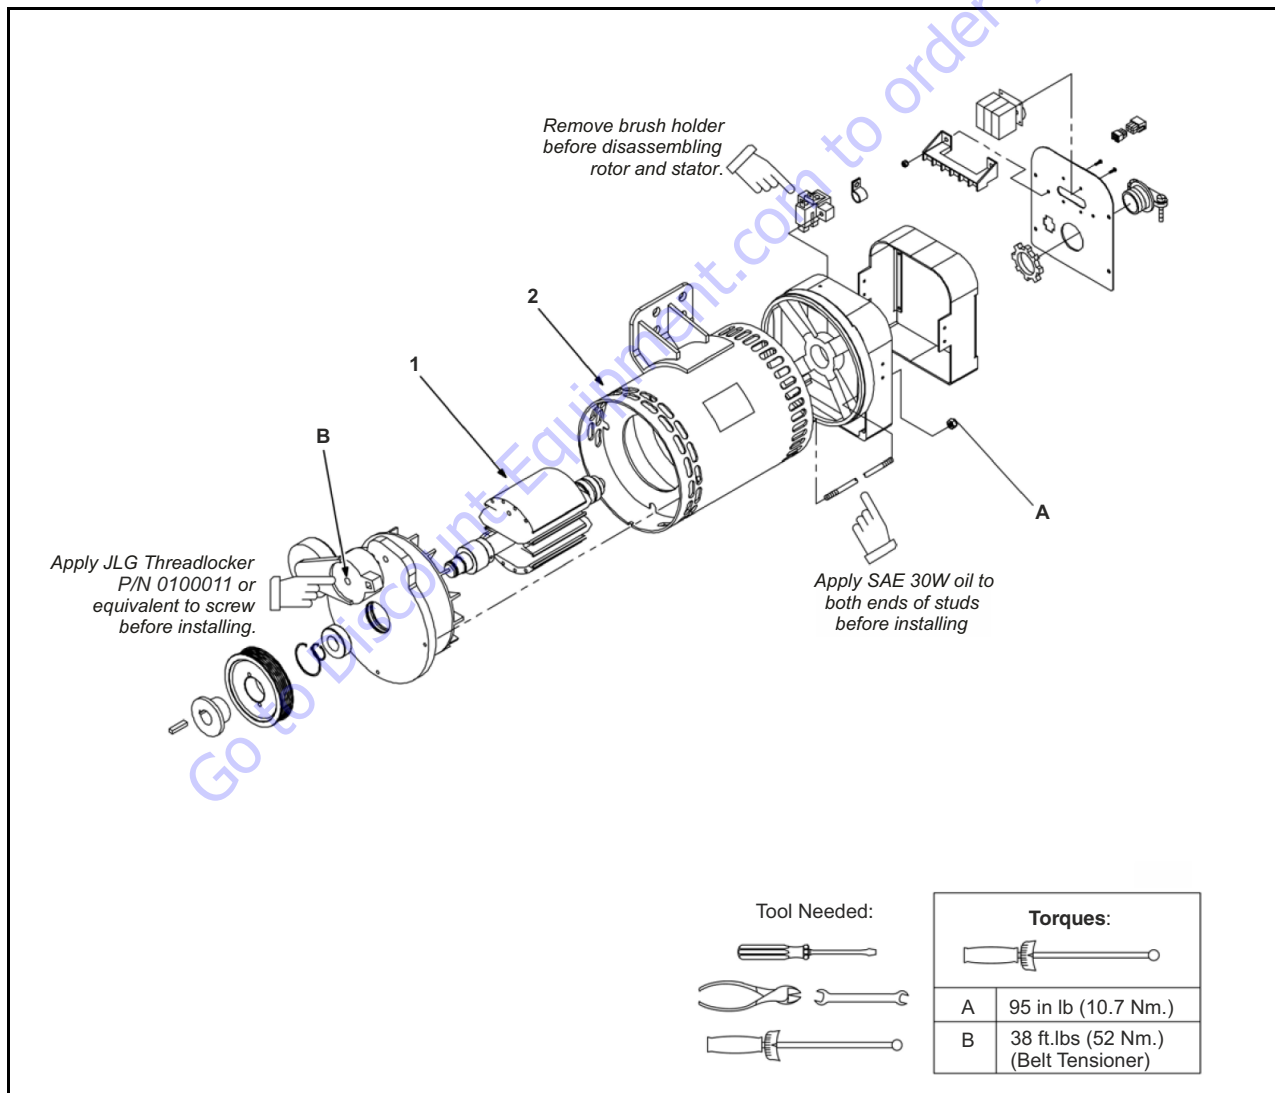

Figure 3-58. Generator Disassembly and Assembly
3. Disassemble generator parts shown in Figure 3-58.